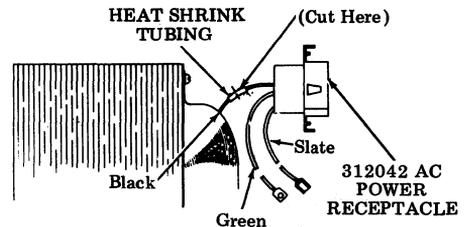

Fig. 26
- 2.13 The 312042 ac connector is attached to the transformer wiring as shown in Fig. 26. It is removed by cutting the black wire in the center of the heat shrink area.